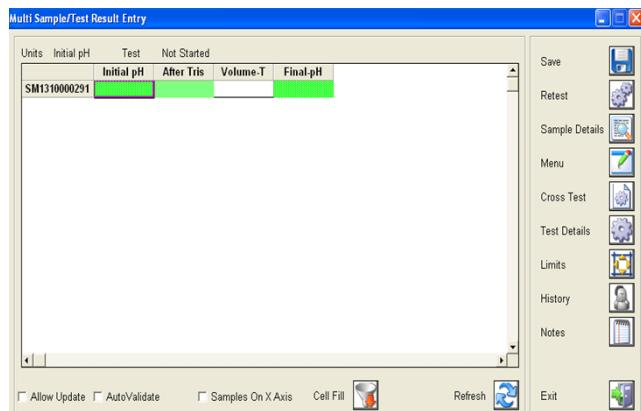

Figure 28: Multi Sample/Test
3. Select the '**Add Protease Inhibitor**' icon which will bring up the '**Add Protease Inhibitor Pellets**' screen (Figure 28).